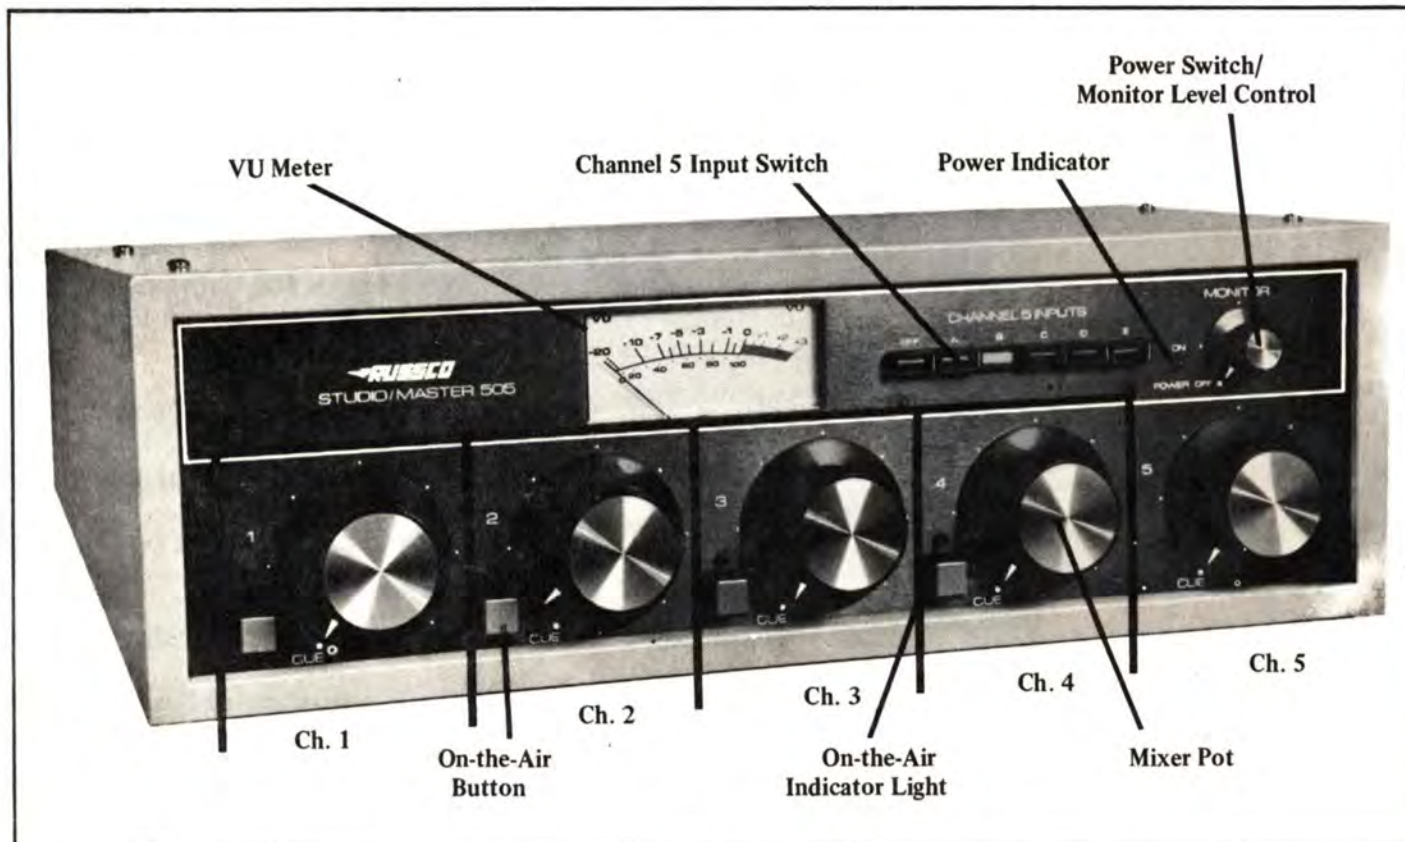

Figure 5-1. Front Panel Controls
5-6. Figure 5-1 illustrates front panel controls.
- c. Remove four front panel screws and remove panel. (see figure 5-1.)